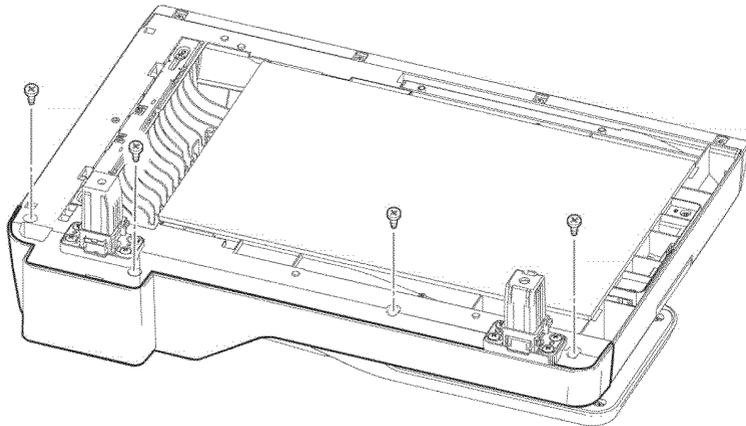

Figure 1 DADF rear cover screw removal
2. Remove four screws (silver, tapping, 8mm), from the DADF assembly, Figure 1.